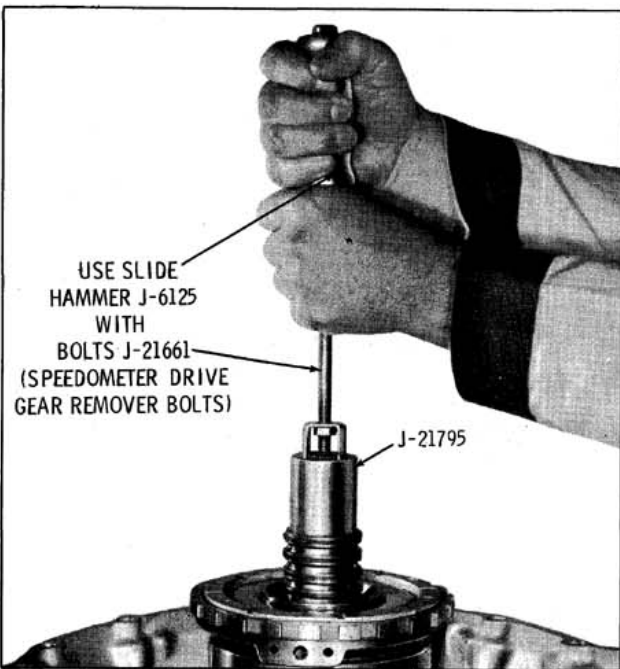

Fig. 6-74 Removing Gear Assembly
15. Remove the entire gear unit assembly by lifting with Gear Assembly Installing and Removing Tool J-21795 and J-6125 Slide Hammer. (Fig. 6-74)